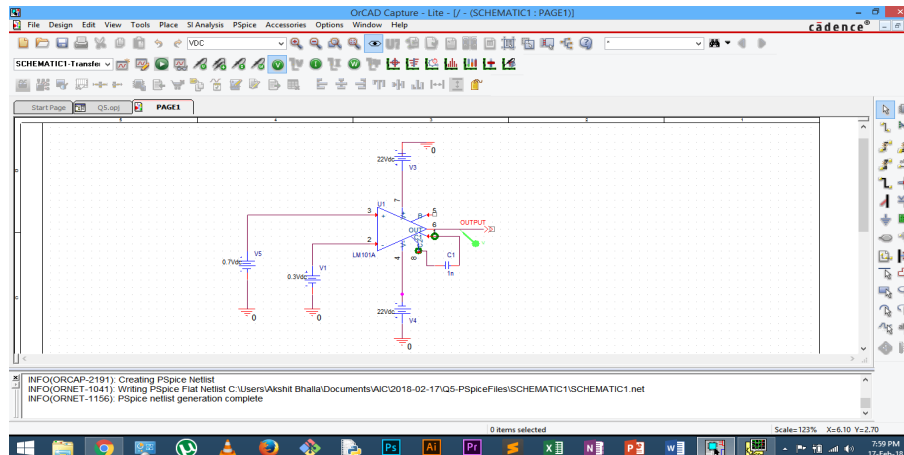

Figure 16: Circuit Diagram
- The circuit was constructed as show in Figure 16.